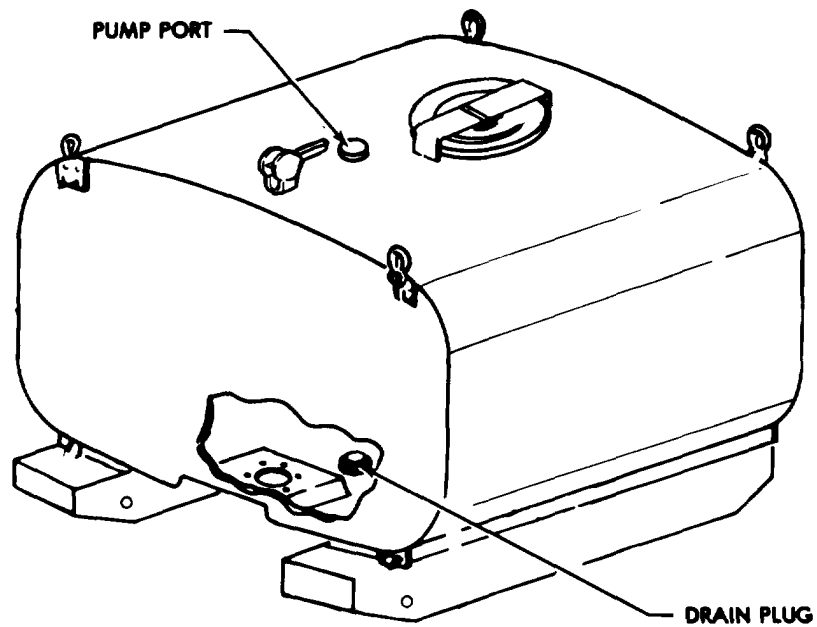

Figure 4-18. Pump Port and Drain Plug.
- a. General. A pump port (55 gallon drum plug) cover assembly is provided so that a hand pump may be used. (Figure 4-18.)
- a. General. The drain plug is used for removing remaining liquid accumulation after the tank is drained through the dispensing valve. (Figure 4-18.)
- (1) Clean parts with drycleaning solvent (Item 1, App. E) and dry thoroughly.
- (2) Inspect for breaks, cracks, and damaged threads. Replace a damaged drain plug. Replace the gasket.